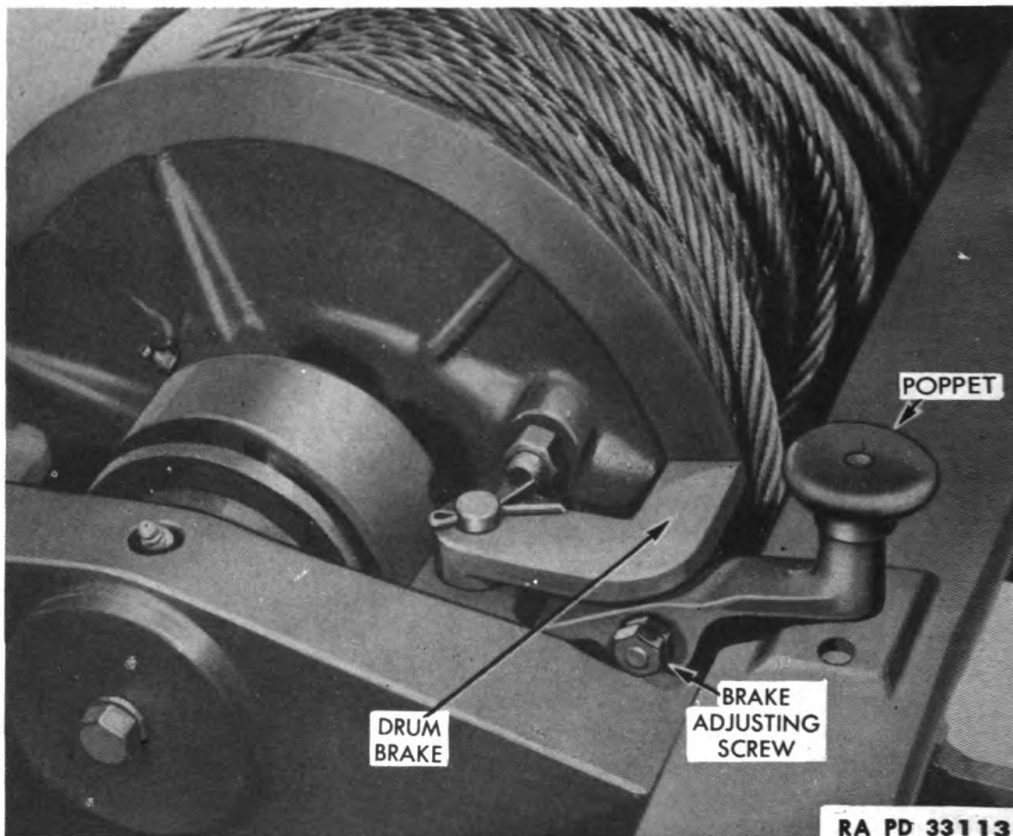

Figure 119—Drum Brake Adjustment
(1) **DRUM BRAKE ADJUSTMENT** (fig. 119). The correct drum brake adjustment exists when there is sufficient drag on the drum to prevent the drum from spinning while the cable is being pulled out with the clutch disengaged. If it is necessary to make this adjustment, shift the clutch to the released position, and engage the poppet in the hole in frame member. Loosen the brake adjusting screw check nut, and turn the adjusting screw until the brake engages the drum flange with sufficient tension to prevent the cable from loosening up on drum. Tighten adjusting screw check nut.